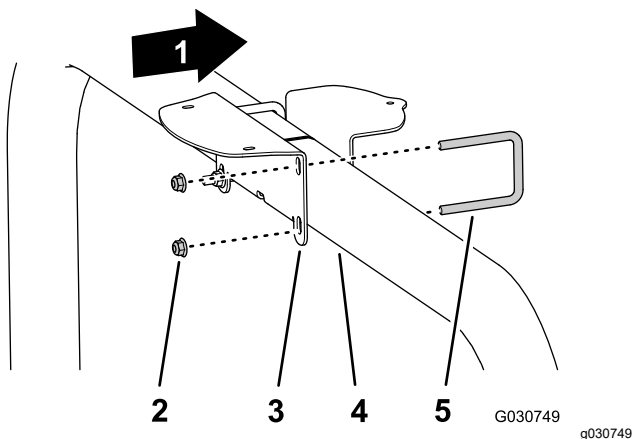

Figure 48
2. Assemble receiver mount to the ROPS tube with (Figure 48) the U-bolt and 2 flange locknuts (3/8 inch).